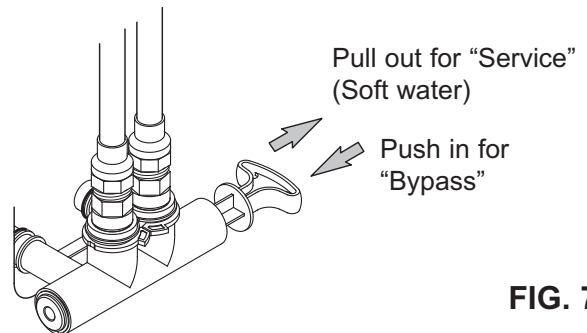
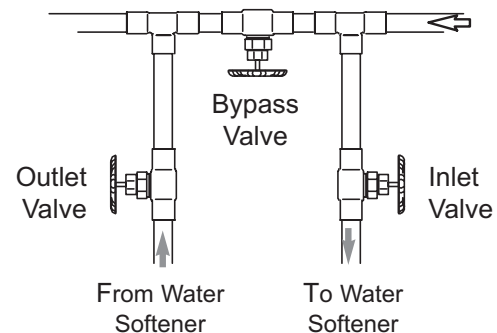

FIG. 7
FIG. 8
Always install either a single bypass valve (provided), as shown in Figure 7, or, if desired, parts for a 3 valve bypass system (not included) can be purchased and assembled, as shown in Figure 8. Bypass valves allow you to turn off water to the softener for maintenance if needed, but still have water in house pipes. Pipe fittings must be 3/4" minimum.
**CAUTION:** The house cold water pipe (metal only) is often used as a ground for the house electrical system. The 3-valve bypass type of installation, shown in Figure 8, will maintain ground continuity. If you use a plastic bypass valve at the unit, continuity is broken. To restore the ground, do the following:
2. Place the single bypass valve or 3 valve bypass in "bypass" position. See Figures 7 & 8.